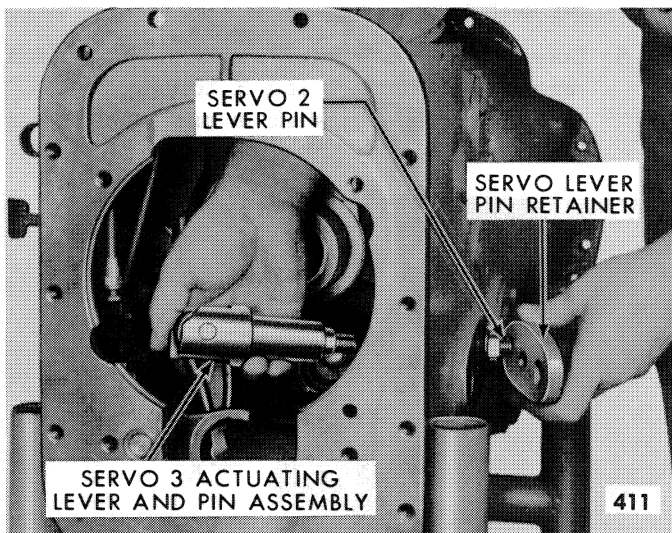

Figure 90—Removing the Servo Lever and Pin Assembly from Servo 3
8. Remove the nuts and flat washers from the servo 2 actuating lever pin and servo 3 actuating lever pin. Remove the servo lever pin retainer attaching bolt and the retainer. Remove the servo 3 lever and pin assembly, as shown in Figure 90. Remove the adjusting screw by threading it down through the case.
16. Remove the servo 2 actuating lever and pin assembly from the transmission case, Figure 90.